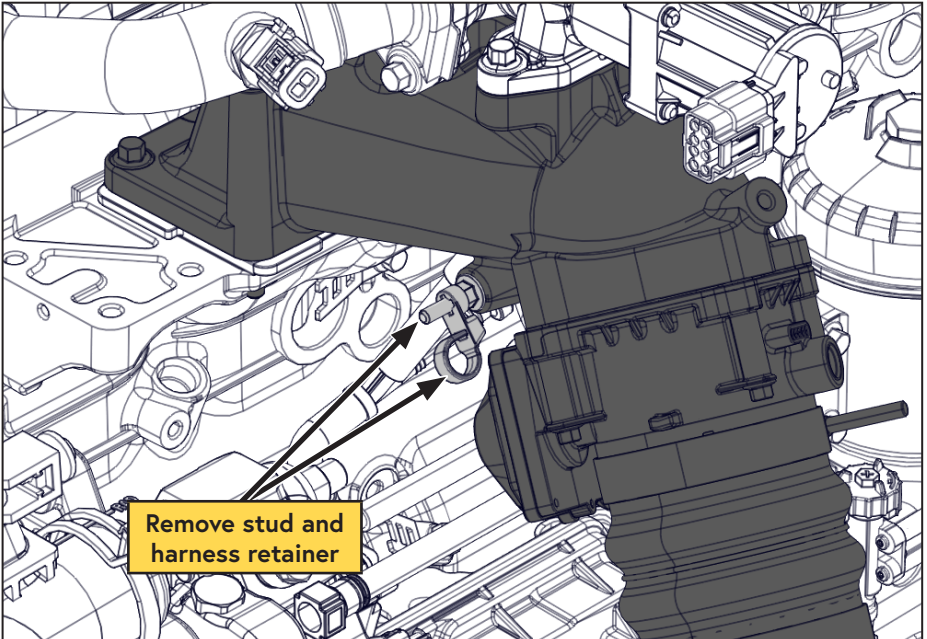

Figure 8 — Throttle body
- Remove the throttle body cover (if equipped), the wire harness retainer, and the OEM stud (Figure 8).